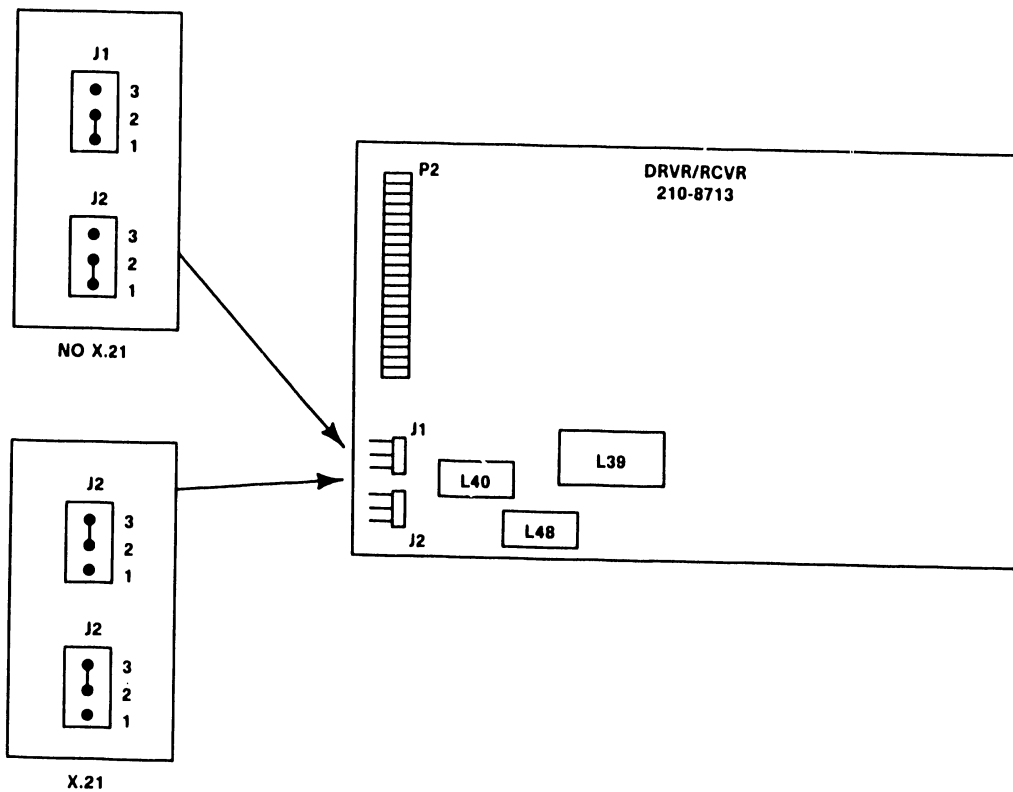

Figure 7-24. 210-8713 GATC Driver/Receiver Board
6. Before installing the new assembly, check the jumpers J1 and J2 on the 210-8713 Driver/Receiver board for X.21 protocol as shown in figure 7-24.